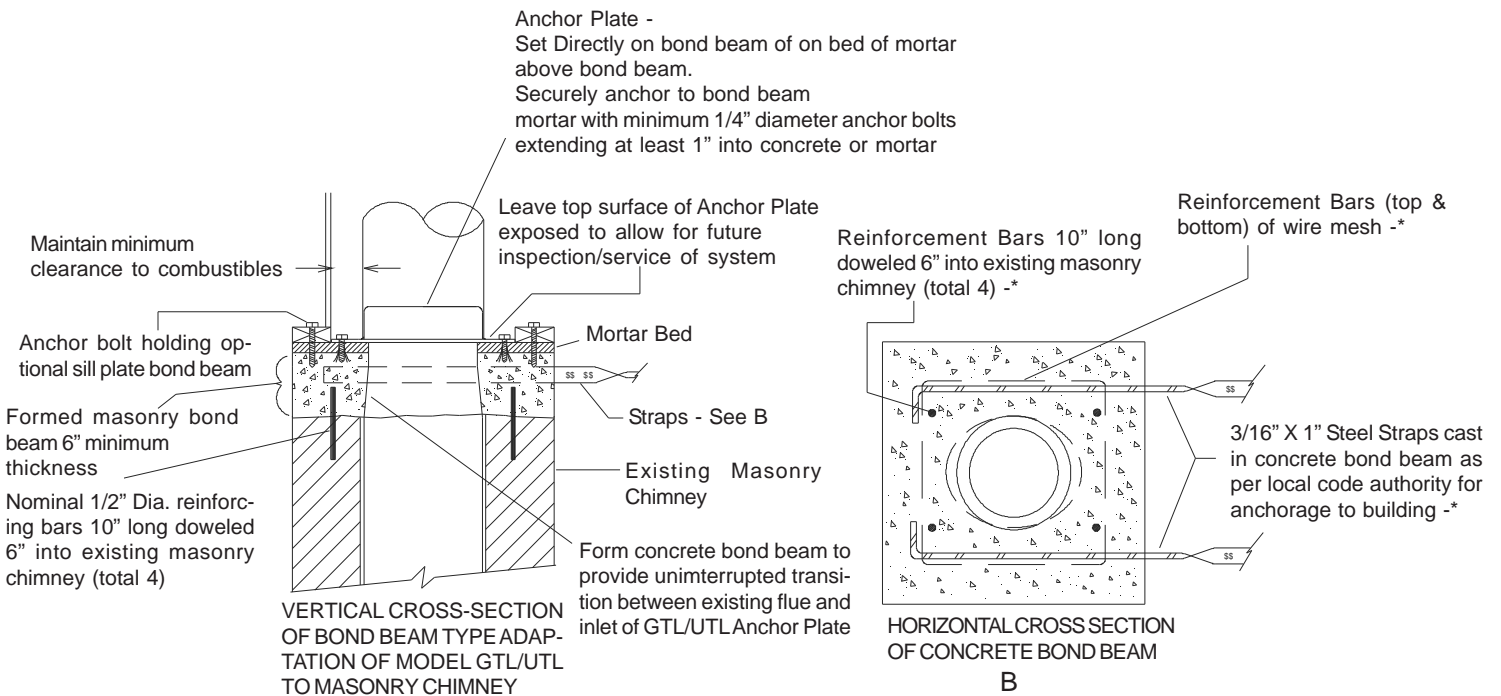

Fig. 5a
The Anchor Plate (AP) provides a connection from a masonry fireplace to Model GTL/UTL. The Anchor Plate may also be used to attach Model GTL/UTL to an existing masonry chimney. The method for making the transition from an existing masonry chimney to the GTL/UTL is known as the "Bond Beam" transition method and is detailed in Fig. 5a.
The masonry chimney should be leveled at the appropriate height and a concrete Bond Beam should be properly constructed by a qualified person / contractor as shown in Fig.5a. Unless otherwise specified by local code, the Bond Beam should be a minimum of 6" thick and provide an uninterrupted, smooth transition from the existing masonry flue to the inlet of the Anchor Plate.
Although not mandatory, it is recommended to apply a 3/4" deep bed of mortar on top of the Bond Beam and ultimately attach the Anchor Plate to the bed of mortar with the use of four 1/4" diameter, 2" long anchor bolts. (See Fig. 5a and 5b). Regardless, the top surface (whether Bond Beam or mortar) should be level.
Local codes may permit or require minor variations in the Bond Beam construction. Contact Local Code Authorities for specific requirements in your area. (See Fig.5a and 5b)